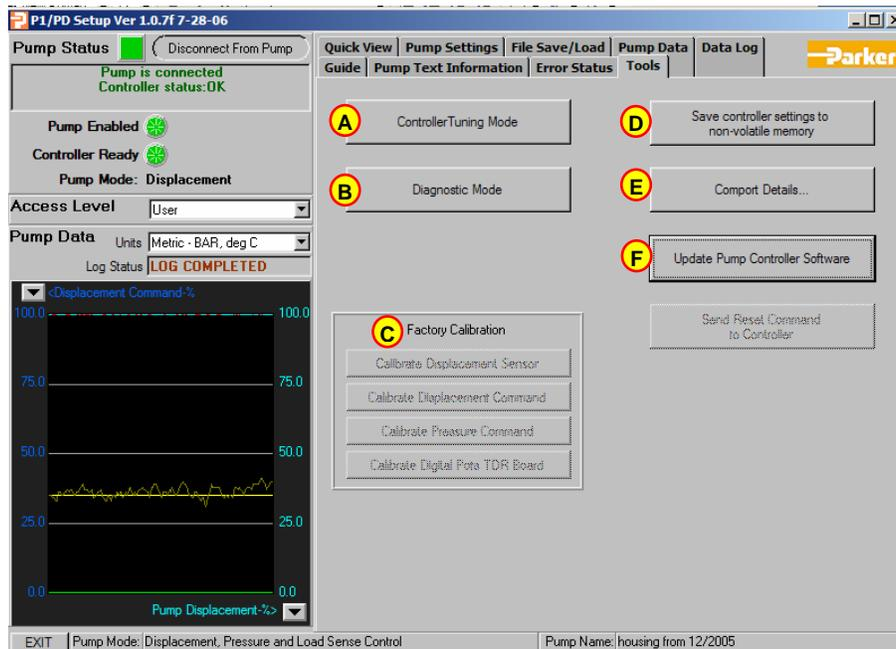

Figure 9: Tools screen of P1/PD GUI
24. With the GUI running go to the tools menu item, see Figure 9.